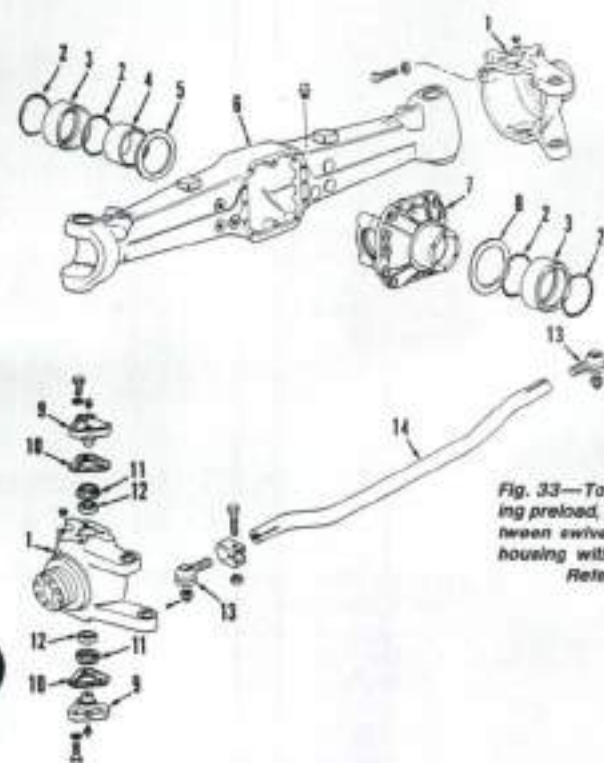

Fig. 32—Exploded view of Carraro Type 709/19 front drive axle used on late Models 1394, 1494 and 1594.
To remove swivel housing (1—Fig. 32), disconnect steering cylinder from left-hand steering arm. Disconnect tie rod end from swivel housing arm. Remove upper and lower swivel pins (9) and shims (10). Withdraw swivel housing from axle housing.
38. SWIVEL BEARING PRELOAD. Shims (10—Fig. 32) are used between swivel pin (9) and housing (1) to adjust bearing preload. Correct preload setting is 0.2 mm (0.008 inch). To adjust, install bottom pin without shims and tighten bolts to 83 N·m (60 ft.-lbs.) torque. Support the weight of the axle with a jack under bottom pin. Install top pin without shims or bolts making sure bearing cone is fully seated in cup. Measure the gap between flange of swivel pin and swivel housing (Fig. 33). Select shim pack which is 0.1-0.2 mm (0.004-0.008 inch) less than the gap measurement. Divide shim pack equally and install half of the shims